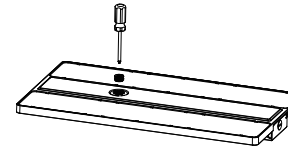

Figure 9
- Step1. Use a screwdriver to remove the 1/2 plug from the sensor; (Figure 9)